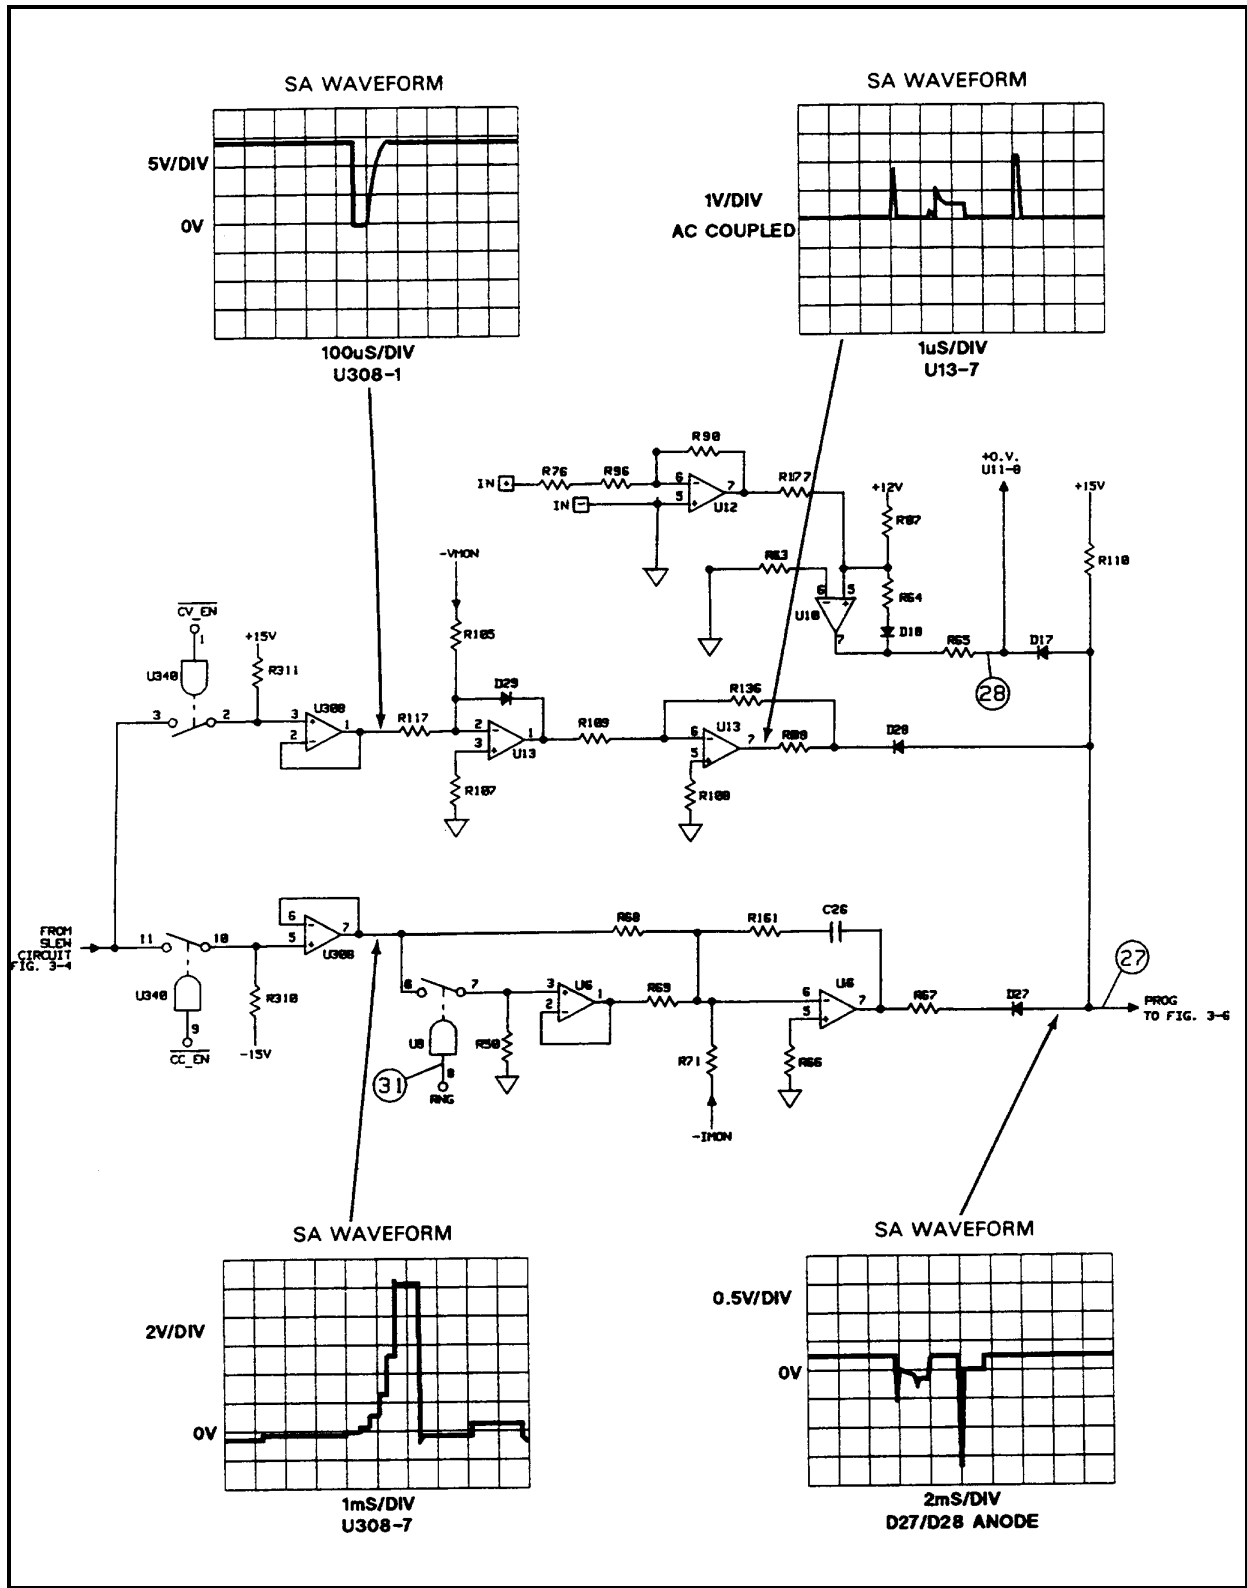

Figure 3-5. CC/CV Control Circuits Troubleshooting
### CC/CV CONTROL CIRCUIT TROUBLESHOOTING (Figure 3-5)
The overvoltage (OV) circuit (U10, D17) is also shown on Figure 3-5. When an OV condition is detected, the OV circuit generates a negative signal on the PROG signal line via diode D17, which causes the input power stages to increase current flow to attempt to limit input voltage. R64 and D18 latch the OV circuit on. When activated, the OV circuit overrides the CC and CV control circuits.
To troubleshoot the CV or CC circuits, place the Electronic Load in the S.A. mode by connecting the jumpers in test headers TP201 and TP301 in the S.A. mode positions (see Figure 3-2). The waveforms shown in Figure 3-5 can only be generated when S.A. mode is on. If the waveforms are correct but a problem exists, troubleshoot the input power stages as described in the next section.